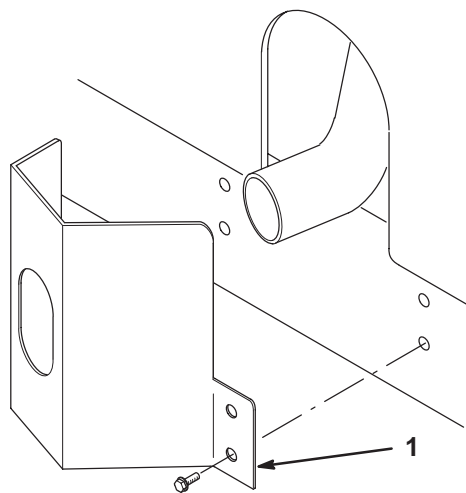

Figure 9
1. Position the exhaust guard around the muffler while aligning the mounting holes with the holes in the frame (Fig. 9).
2. Secure the exhaust guard to the frame with 4 self-tapping screws (Fig. 9).